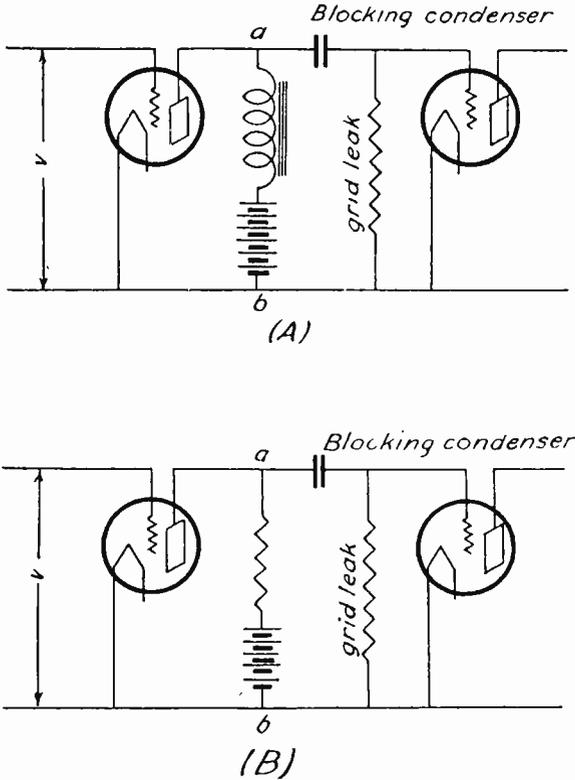

Fig. 5
fier. The simple circuit of the impedance coupled amplifier is shown in Fig. 5-(A), and in Fig. 5-(B) the resistance-capacity coupled amplifier, so that you can see the difference between the two systems.
In other words, if we have a certain voltage "v," as in Fig. 5, impressed on the input of the tube, there will be a certain voltage between the points "a" and "b" in the plate circuit of that tube. This will be the same thing, whether the frequency of the impressed voltage "v" is 50 or 5,000 cycles per second. This is because the resistance does not change with the frequency.
But there are difficulties encountered in using resistances in the plate circuits of the tubes. In order to operate the electron tubes properly it is necessary to have a certain voltage on the plates of these tubes. Now you will see, if you look again at Fig. 5-(B), that the "B" battery is connected in series with this resistance, so that the electrons flow from the filament to the plate through the resistance, then from the battery back to the filament. In order to obtain a considerable amount of amplification in each stage it is necessary to use a large resistance in the plate circuits, perhaps 100,000 ohms. This is the value of the resistance often used.
Now we have said before, that when an alternating current is passed through a coil of wire, a varying magnetic field is created which cuts back on the turns of wire, and *induces* a voltage across the terminals of the coil. What we do then, in the case of the impedance coupled amplifier, is to take this voltage across the terminals of the coil, at the points "a" and "b" in Fig. 5-(A), and impress it on the input of the next tube, through the blocking condenser. You remember in the case of the resistance coupled amplifier, we had to place this blocking condenser in series with the grid in order to keep the high voltage of the "B" battery away from the grid; then, after
The varying voltage, which is due to the signal put into the amplifier and continuously *varies* in strength, will produce a relatively large voltage between the points "a" and "b" of Fig. 5-(A). You see, we have to draw a very distinct line between varying and constant currents. A constant current has very little effect on an impedance coil, and this is due to the small resistance of the coil. The smaller this is, the better the coil. But the varying current has a large effect on the impedance coil, and furthermore, this effect is different at every frequency. The lower the frequency the smaller is the effect, and the higher the frequency the greater is the effect.
The other effect which we mentioned is a little more complicated and we must study it carefully. Suppose we look at Fig. 7. The circuit diagrams in this figure are the same as the circuit diagrams in Fig. 5, only they have been drawn a
little differently. You can see that they are similar by comparing the two sets of diagrams, line for line. The same points "a" and "b" have been marked on these diagrams as were marked on Fig. 5.